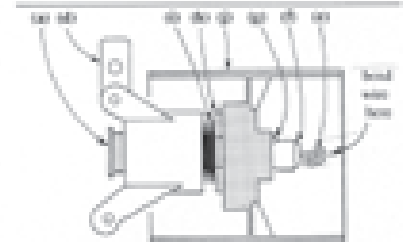

Fig. 6
STEP 7 Before the wheel is on and locked in place, bend the end of the wire (e) with a pliers, as shown in fig. 6, so it will be easier on your thumb when you push down on the spring. Pushing the spring down also lowers the locking pin, allowing the wheel to be pulled off easily. The slanting portion of the locking pin enables the wheel to be slid on quickly and easily too when aligned with a ramp within the hub.
STEP 6 Push the wheel (j) onto the axle. Make sure the locking pin pops back up (noted at point k, fig. 6) when the wheel is pushed on. If it doesn't pop up, pull the wheel back off and rim a small amount of the hub where it contacts the pin and try it again. Fig. 5 shows the built-in ramps in the wheel hub, one of which helps force down the locking pin whenever you slide on a wheel. Just align a ramp with the locking pin and push the wheel on.